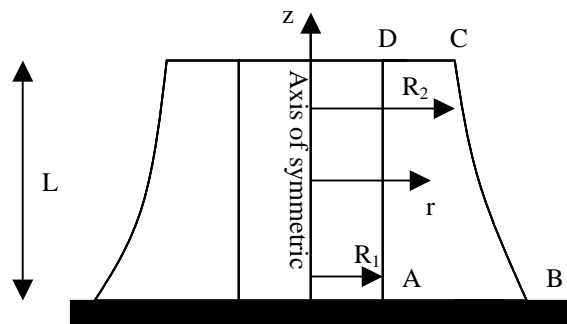

Figure 1. Solid of revolution, Area ABCD revolved about z
1) In axisymmetric stress analysis, See Figure 1, the strain energy is given by the following expression:
- Choose an appropriate isoparametric finite element of your choice to model the thick-walled cylinder with curved walls as shown in Figure 1.